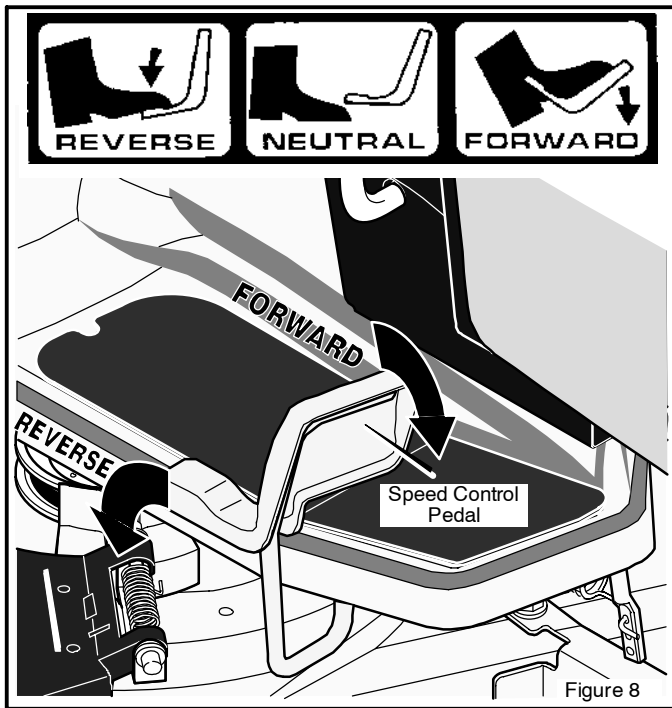

Figure 8
4. Slowly push the **speed control pedal** forward to the desired speed (Figure 8).